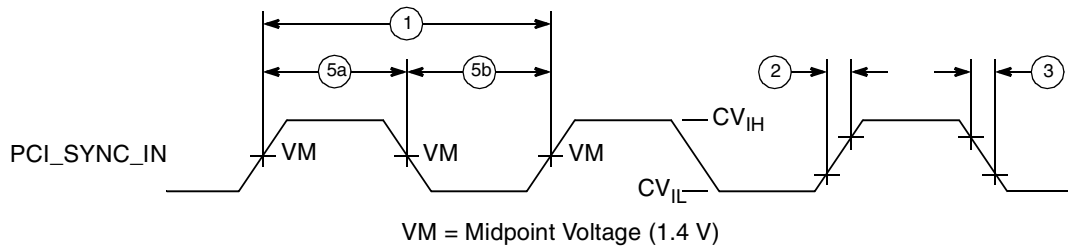
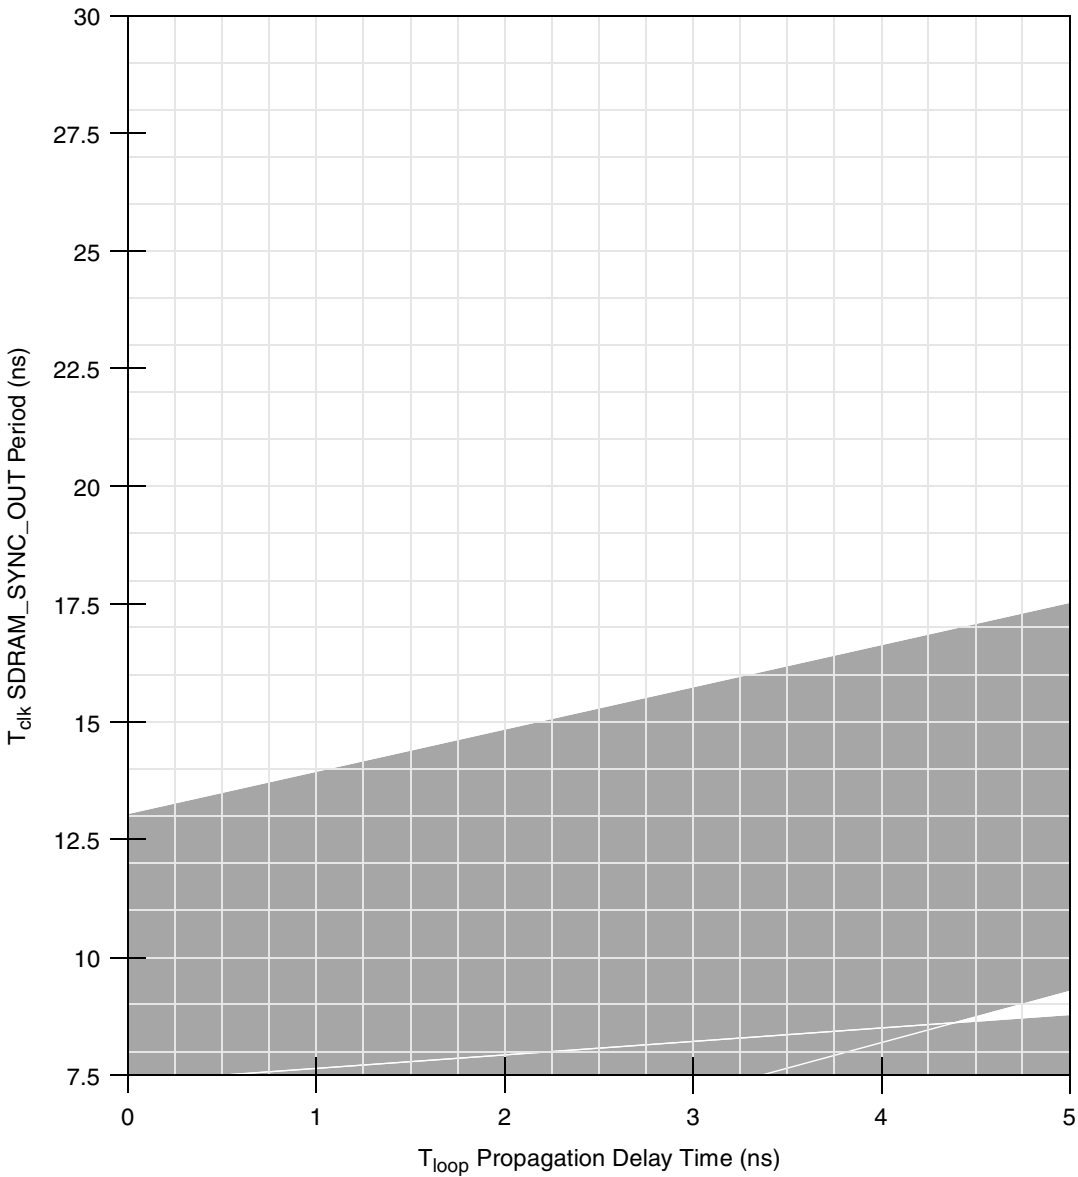
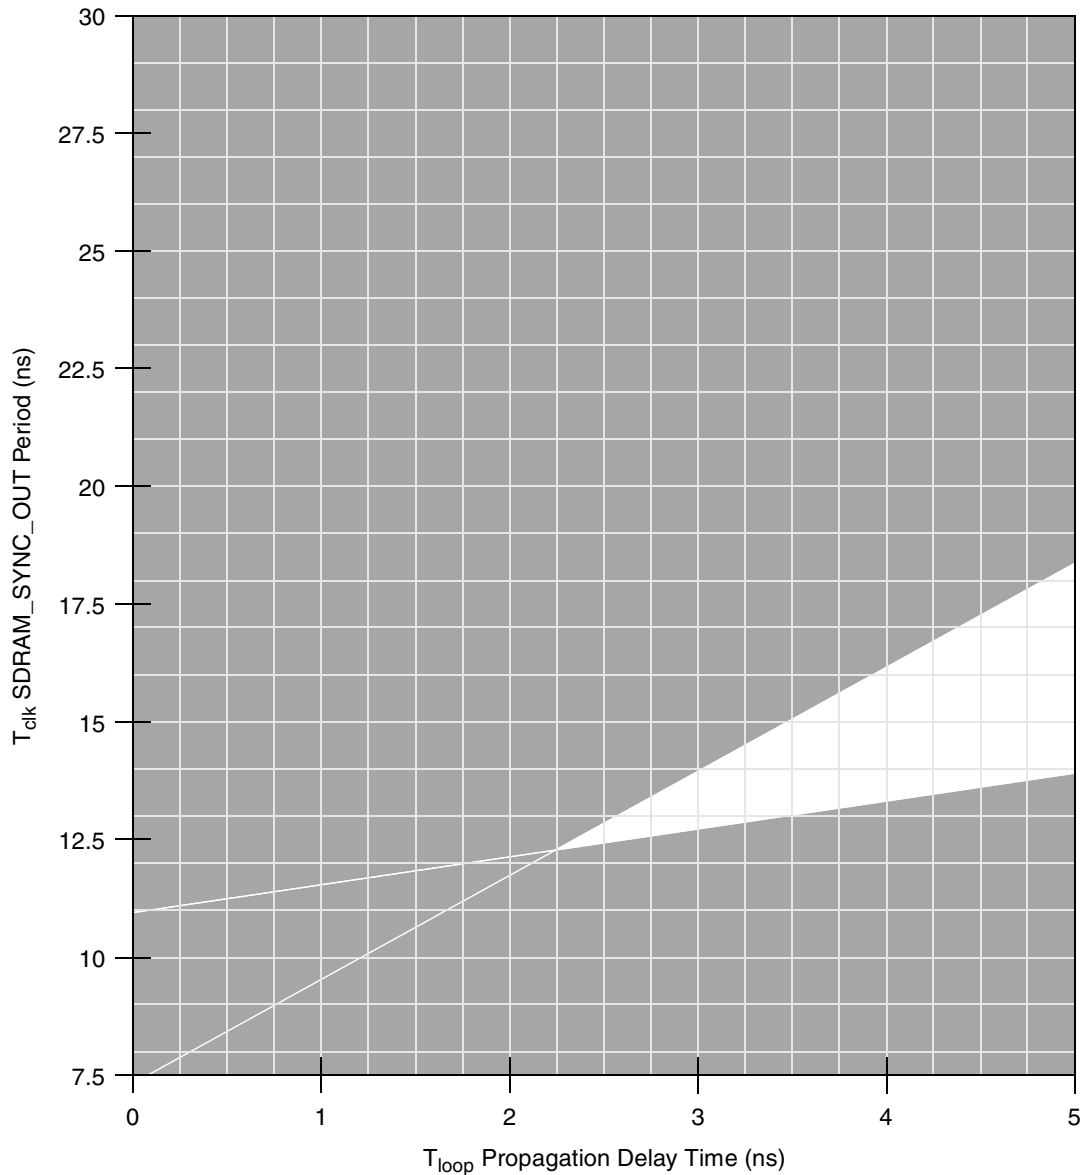

Figure 6. PCI_SYNC_IN Input Clock Timing Diagram
Figure 7. DLL Locking Range Loop Delay versus Frequency of Operation for DLL_Extend=0 and Normal Tap Delay
Figure 10. DLL Locking Range Loop Delay versus Frequency of Operation for DLL_Extend=1 and Max Tap Delay
Table 8 provides the clock AC timing specifications at recommended operating conditions, as defined in Section 4.5.2, “Input AC Timing Specifications.” These specifications are for the default driver strengths indicated in Table 4. Figure 6 shows the PCI_SYNC_IN input clock timing diagram with the labeled number items listed in Table 8.
6. DLL_EXTEND is bit 7 of the PMC2 register <72>. N is a non-zero integer (see Figure 7 through Figure 10). T_{clk} is the period of one SDRAM_SYNC_OUT clock cycle in ns. T_{loop} is the propagation delay of the DLL synchronization feedback loop (PC board runner) from SDRAM_SYNC_OUT to SDRAM_SYNC_IN in ns; 6.25 inches of loop length (unloaded PC board runner) corresponds to approximately 1 ns of delay. For details about how Figure 7 through Figure 10 may be used, refer to the Freescale application note AN2164, *MPC8245/MPC8241 Memory Clock Design Guidelines*, for details on MPC8241 memory clock design.
Figure 6 shows the PCI_SYNC_IN input clock timing diagram, and Figure 7 through Figure 10 show the DLL locking range loop delay versus frequency of operation.